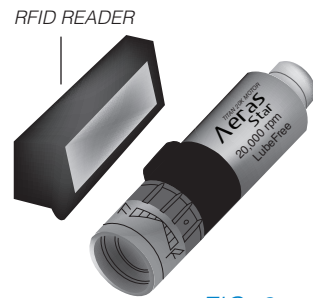

FIG. 9
2. Pass motor within 2 inches of the reader with a sideways orientation as shown to the right (Fig 9).